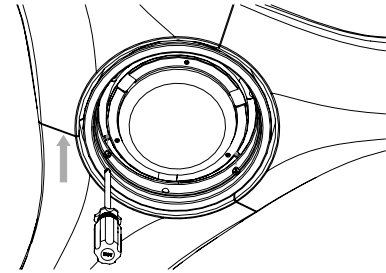

FIGURE 19
2. Secure the LED module with the 3 screws to the mounting plate (Fig. 19).